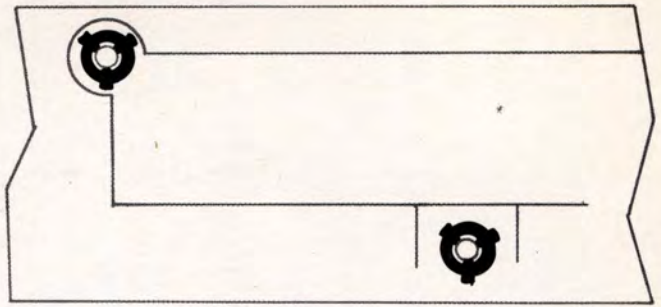

Fig. 24. Inside arm front panel retaining rings.
2. Remove top cover, remove screws which fasten front panel to machine arm, remove front panel retaining rings (inside of arm) see fig. 24.
3. Position indicator plate and fasten to arm with screws, and retaining rings (inside of arm) Fig. 24.